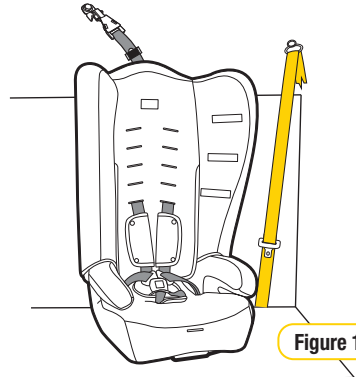

Figure 1
Step 1: Place the child restraint in desired upright or reclined position, with the back against the back of the vehicle seat, directly in line with the anchorage point (see Figure 1).